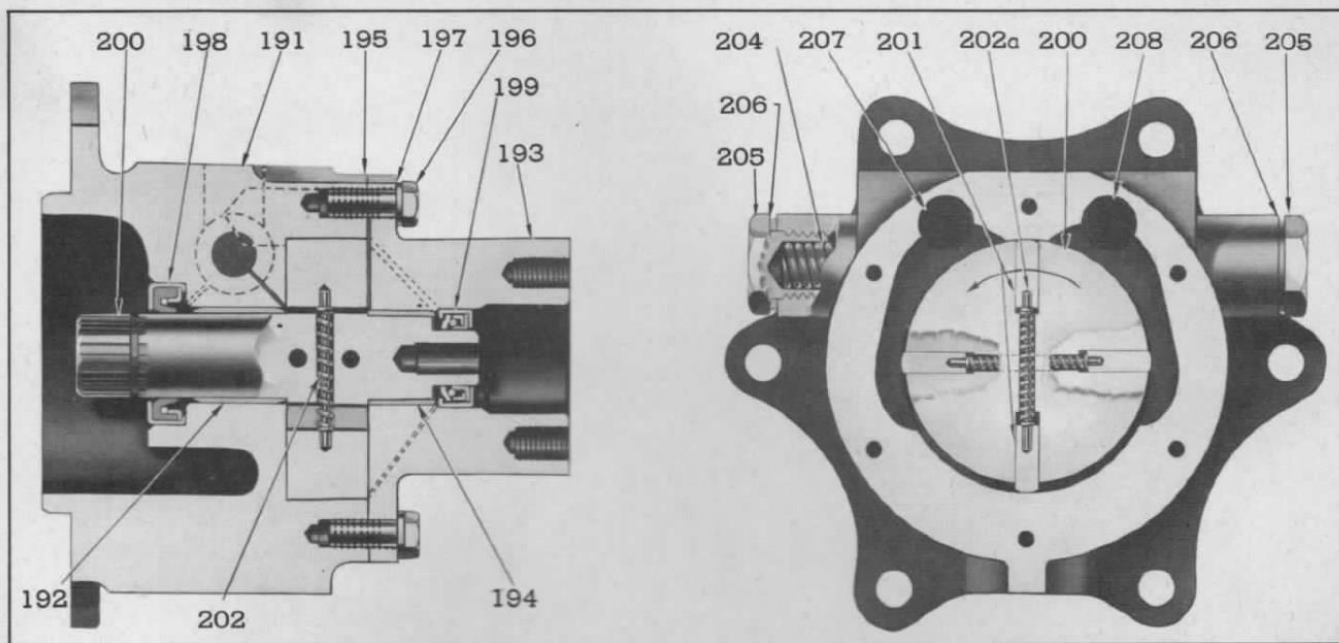

Fig. 11—Oil Pump Assembly—Hydraulic Marine Reverse Gear
As illustrated in Fig. 11, an integral rotor and shaft (200), mounted on a bronze bearing (192) in the pump body (191) forward and a bronze bearing (194) in the pump cover (193) aft of the rotor, revolves in the pump body, the bore of which is eccentric to the rotor. Practical bearing alignment for the rotor shaft and true travel of the rotor in the housing is provided by dowels in the cover to the pump body. Bolts and lock washers fix the cover rigidly to the pump body. An oil seal (198) in the pump body and another (199) in the pump cover at opposite ends of the rotor shaft, ride on the shaft to guard against oil leaks along the shaft.